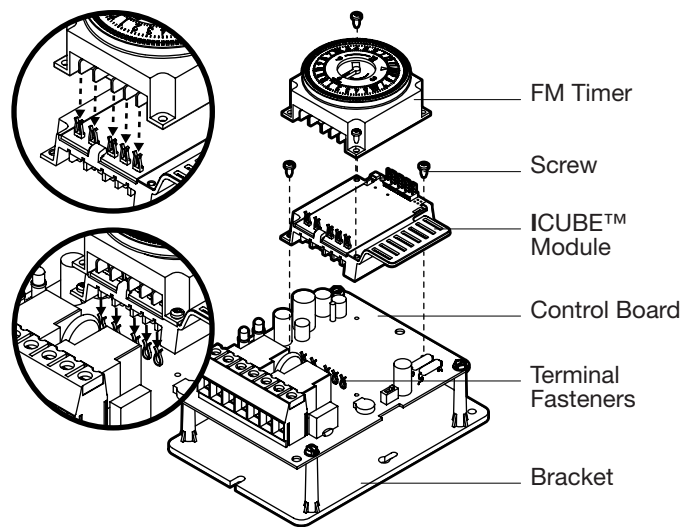

FIG. 5 Install the ICUBE™ Module (Bracket Shown)
2. Orient the ICUBE™ module as shown in FIG. 5.
3. Install and fasten the ICUBE™ module to the control board with the screws provided. Be sure to align the ICUBE™ module terminals with the terminal fasteners on the control board when placing. See FIG. 5.
4. Install and fasten the FM timer onto the ICUBE™ module with the screws provided. Be sure to align the FM timer terminals with the terminal fasteners on the ICUBE™ module. See FIG. 5 inset.